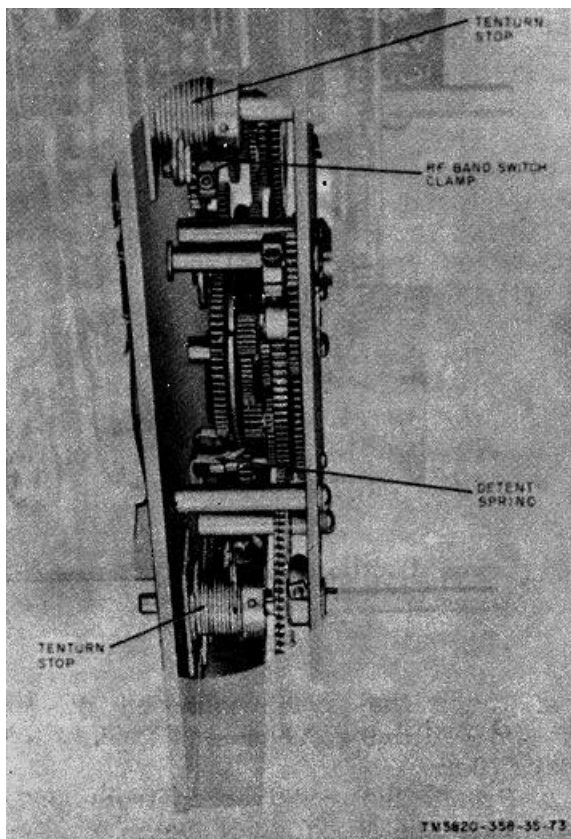

Figure 69. Location of rf band switch shaft clamp, detent spring, and ten-turn stops.
a. *Ten-Turn Stops.* Check the 10-turn stops (fig. 69) by rotating the MEGACYCLE CHANGE and KILOCYCLE CHANGE shafts fully counterclockwise. The first two digits on the frequency indicator should indicate halfway between 99 and 00 mc (off the detent position). The next three digits should indicate between -963 and -972 kc.
- (4) Connect the TS-352(\*)/U between pin 6 of XV207 and pin D of J208. The indication should be approximately 56,000 ohms.
- (5) Turn the MEGACYCLE CHANGE control to 08. The TS-352(\*)/U should indicate an infinite reading.
- (6) If the indications are *not* as in (4) and (5) above, continue with procedures (7), (8), and (9).
- (7) Disconnect the TS-352(\*)/U and reinsert V207.
- (8) Remove the front panel (para 58) and the rf subchassis (para 59).
- (9) Loosen the rf band switch clamp (fig. 69). Turn the band switch shaft until the rotors are centered on the contacts which provide the indications required in procedures (4) and (5) above. Tighten the rf band switch clamp.